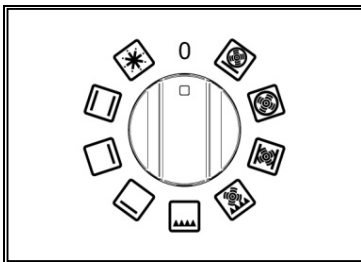

Fig 44
**1** Turn the function selector knob (Fig.44 -45 and Fig.46-47) clockwise to the desired function.